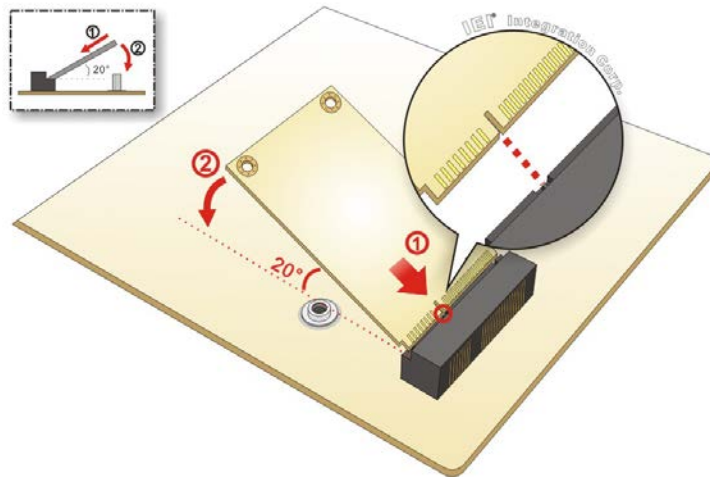

Figure 3-11: Inserting the Full-size PCIe Mini Card into the Slot at an Angle
Step 5: Line up the notch on the card with the notch on the slot. Slide the PCIe Mini card into the socket at an angle of about 20° (**Figure 3-11**).